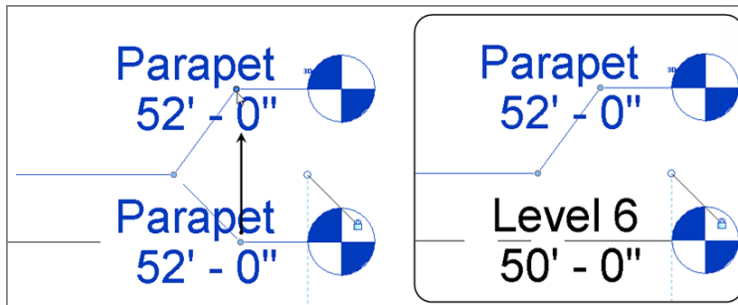

FIGURE 3.14: Dragging the level to a new position by using the grips provided
- Now that you've added the elbow, you need to move it. Notice the blue grip at each bend point. Pick the blue grip, as shown in Figure 3.14, and drag the Parapet level out of the level below.